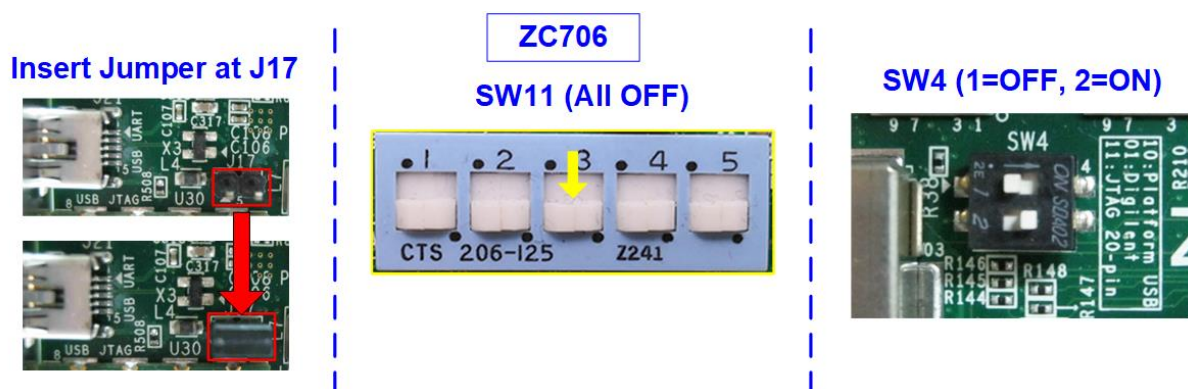

Figure 2-4 ZC706 board setting
- a) For the ZC706 board, configure the settings as shown in Figure 2-4.